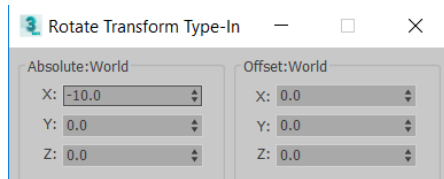
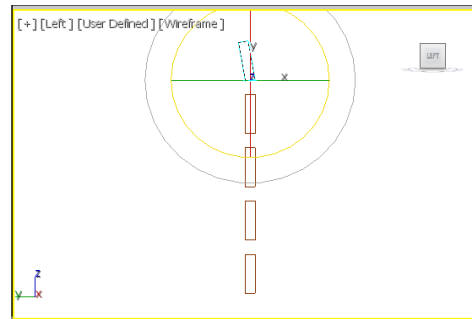

Figure 2-70 The **Rotate Transform Type-In** dialog box
Figure 2-71 The *horizontal back support005* geometry after being rotated in the Left viewport
10. In the **Absolute:World** area, set the value **-10** in the **X** spinner, as shown in Figure 2-70 and then press the ENTER key; *horizontal back support005* gets rotated, refer to Figure 2-71. Now, close the **Rotate Transform Type-In** dialog box.